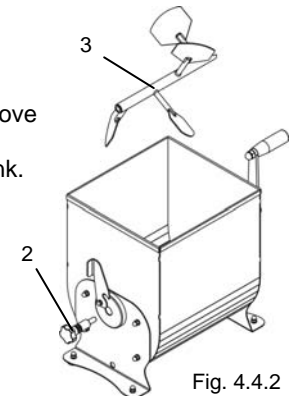

Fig. 4.4.2
- Extract the knob "2" Fig. 4.4.2 to remove the blade "3" Fig. 4.4.2.
- Hold the blade "3" Fig. 4.4.2 and fit it into the tank, pushing it first down and then frontally.
- Fit the knob "2" Fig. 4.4.2 onto the blade.
- Turn the blade "1" Fig. 4.4.2 clockwise by 90° to lock the knob "2" in place